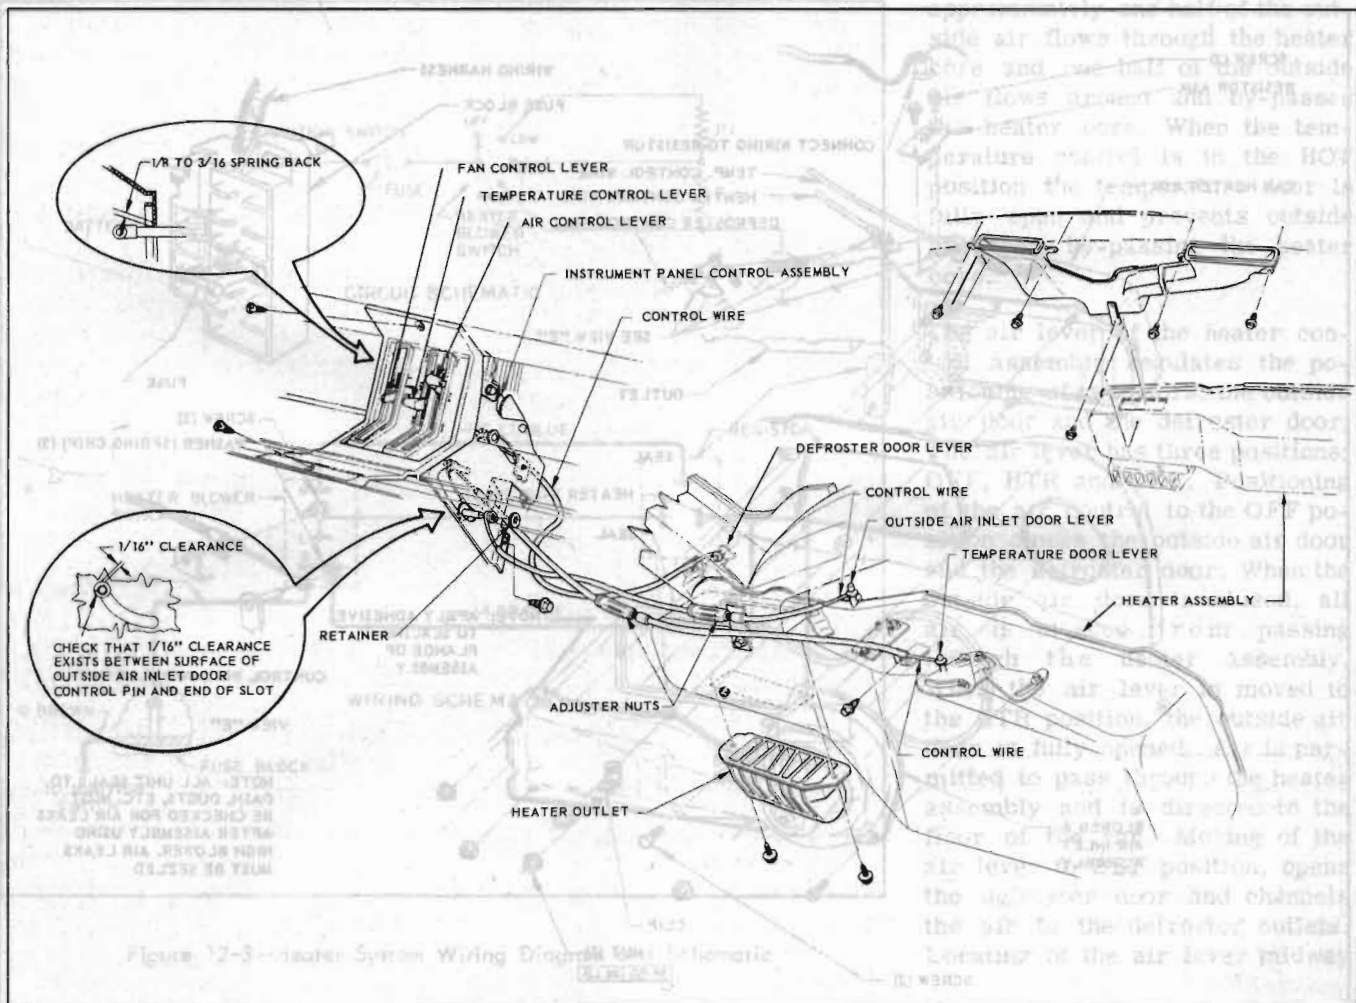

Figure 12-1—Heater Control Wire Installation (43000-44000 Series)
3/16 inch springback is obtained when air control lever is in OFF position. See Figure 12-1.
2. After adjustment is completed, check that 1/16 inch clearance exists between outside air inlet door control pin and end of slot (see Figure 12-1) when AIR control lever is in OFF position.
3. Heater Control Assembly—The heater control assembly (see Figure 12-1) consists of three controls, namely the temperature
2. Remove two screws holding heater control assembly to instrument panel and partially withdraw heater control assembly. See Figure 12-1.
3. Disconnect control cables from levers of defroster door and outside air inlet door on heater assembly (see Figure 12-1).